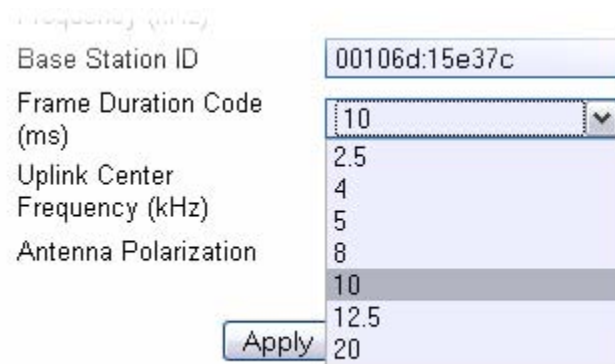

Figure 4-7: Frame Duration Code options
- 4) Select the desired **Frame Duration Code** from the dropdown list (Figure 4-7:).